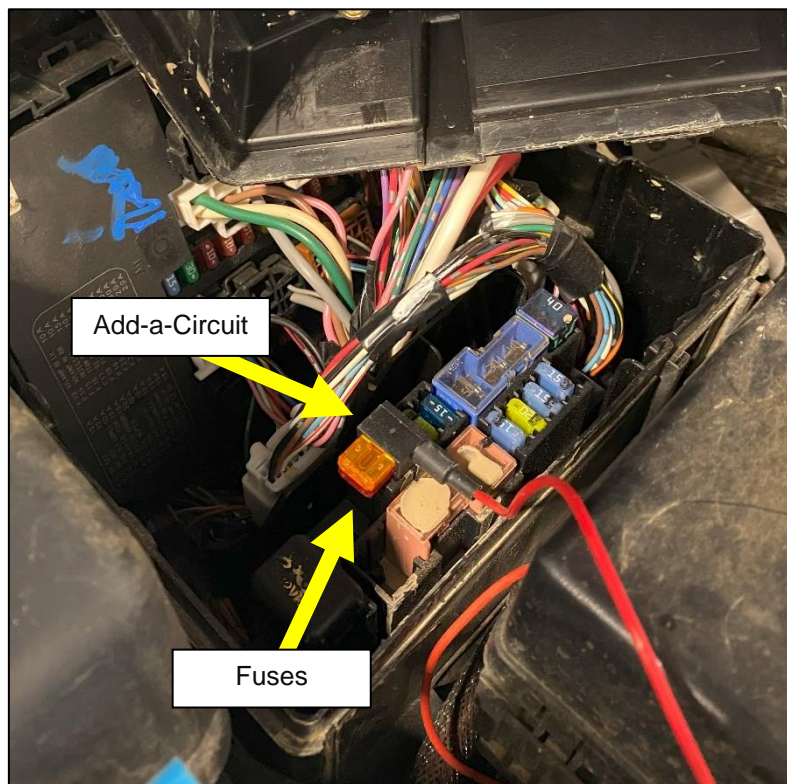

Figure 8
12. Remove the desired Fuse and install the Add-a-Circuit into the now open slot. *Figure 8.*